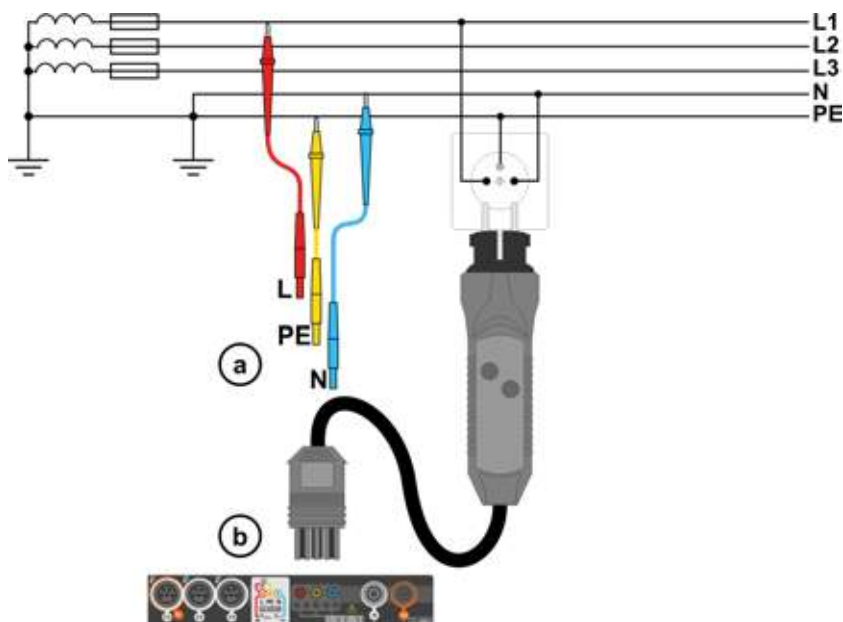

Fig. 3.1 Measurement in L-PE circuit
- ① Connect test leads according to Fig. 3.1 or Fig. 3.2.